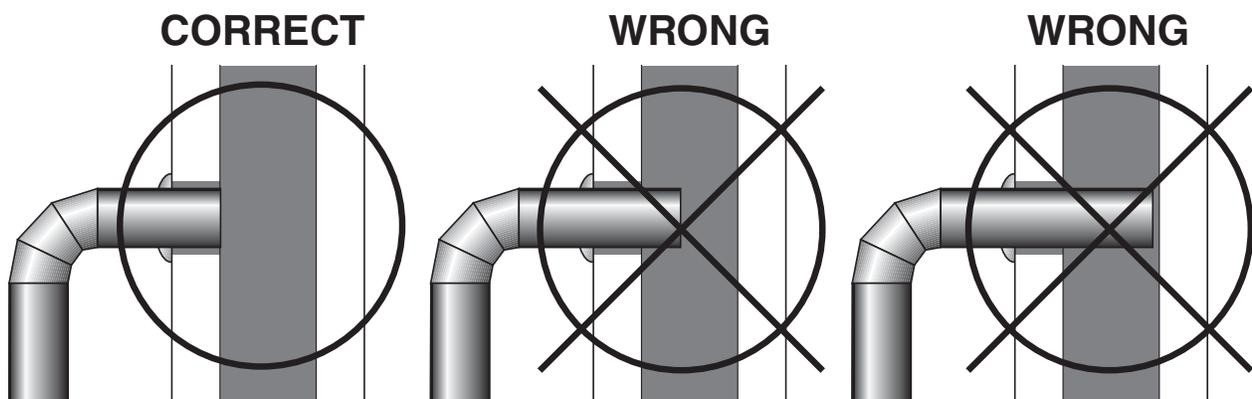

Fig. 14 – Stovepipe/Flue Connections
4. The pipe cannot extend into the chimney flue (see figure 14).
6. It is recommended that no more than two (2) 90 degree bends be used in the stovepipe installation. The use of more than two 90 degree bends may decrease the amount of draw and possibly cause smoke spillage. Where possible, use only corrugated (nonadjustable) elbows. These provide a better seal.
7. The connector pipe must not pass through an attic or roof space, trusses, closet, or any concealed space, or floor, ceiling, wall or combustible construction. (See Chimney Connector Systems & Clearances, page 15). A UL 103 HT (US)/ULC-S629 (CDN) listed chimney must be used from the first penetration of ceiling or wall to the chimney cap. Where passage through a wall or partition of combustible construction is desired, the installation shall conform to NFPA 211 (US) or CAN/CSA-B365 (Canada)
2. Install a metal or fire clay (5/8"/16mm minimum thickness) thimble. Make sure the thimble is flush with the inner surface of the chimney liner and does not protrude into the flue (see figures 14 & 15 on pages 10 & 11).
4. Install the stovepipe into the thimble as far as possible without extending past the flue lining (see figures 14 & 15 on pages 10 & 11).